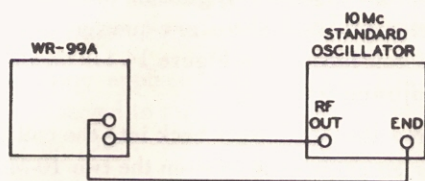

Figure 15. Test setup for alignment of 10-Mc oscillator.
1. Connect the WR-99A to a 1- and 10-Mc standard oscillator, as shown in Figure 15. A Measurements model 111 or equivalent unit may be used as the standard.